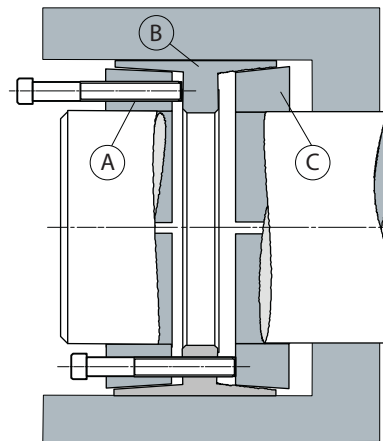

Figure 5
- 4.3.3 Refer to Figure 5. Loosen the shaft locking assembly screws gradually in a diametrically opposed sequence (crosswise pattern). Remove all of the screws. Install screws into push-off threads provided in the outer clamp collar (A), until they bottom against the center collar (B). Tighten the screws crosswise in 1/4 turn increments until the outer clamp collar loosens. Remove the outer clamp collar. Install screws into push-off threads provided in the center collar. Tighten the screws crosswise in 1/4 turn increments until the center collar loosens from the inner clamp collar (C).